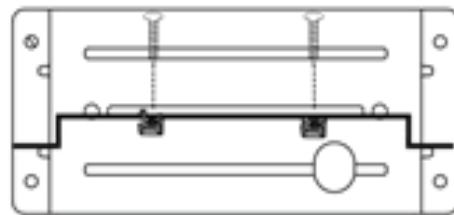

Figure 5
- 1) Install the 2 nut covers on the plate. (Figure 5)